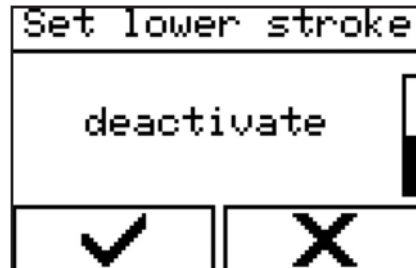

Figure 102 - Deactivating stroke limitation
3. Select 'Deactivate lower stroke limit' (Figure 102).